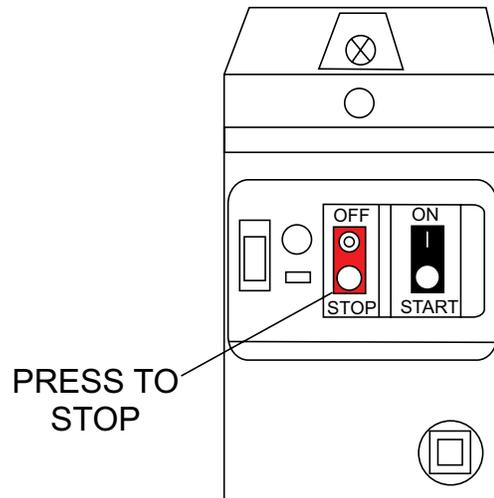

Figure 25. Electric Motor On/OFF Switch (Stop)
1. To stop the electric motor, press the red OFF/STOP switch (Figure 25).